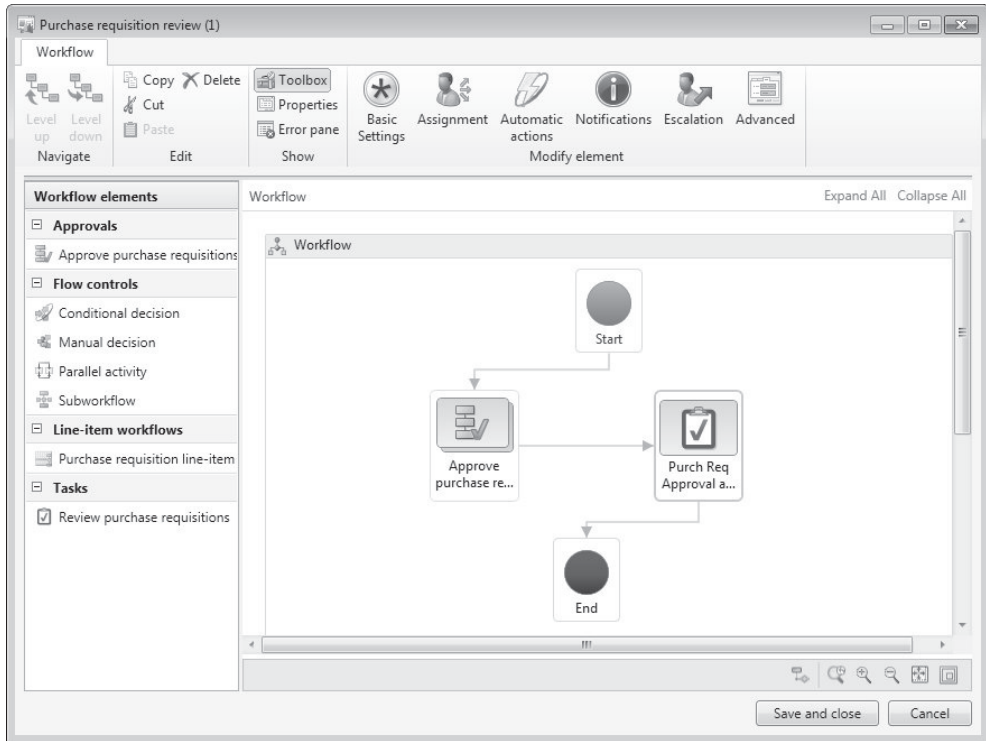

Figure 10-13: Graphical workflow editor showing the purchase requisition workflow
- **Error pane** – Displays error messages and warnings below the canvas (not shown in Figure 10-13, display by clicking the button *Error pane* in the action pane)